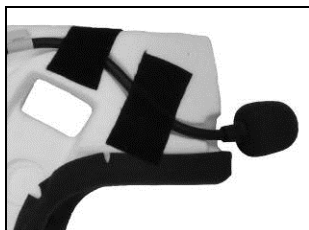
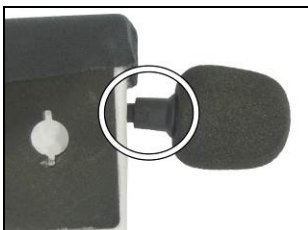

Fig. 44
Fig. 45
- Take the polystyrene check pad (left side) and position the microphone in the special housing, as illustrated in Fig. 44, being careful that the side of the microphone support with the letter "n" is facing towards the inside of the helmet (Fig. 45).
- Secure the microphone to the cheek pad using the "microphone securing stickers", see Fig. 44.